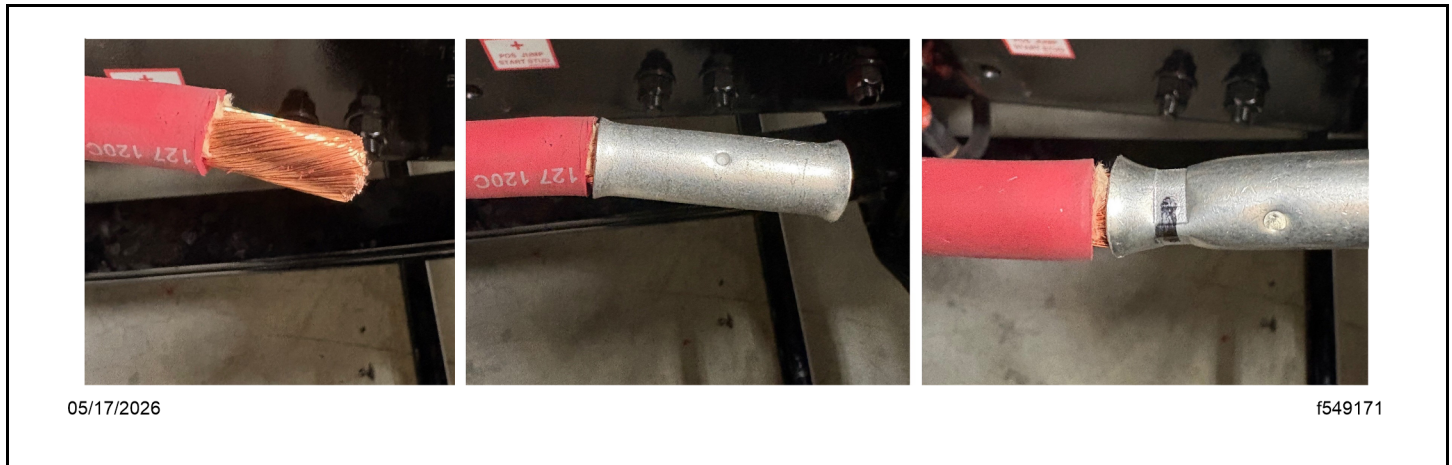

Fig 52, Installing and Crimping the Terminal
21. Crimp the butt connector terminals (PHM 8 2960 and PHM 8 2980) on the cables routed to the cab. See Fig. Fig. 52.